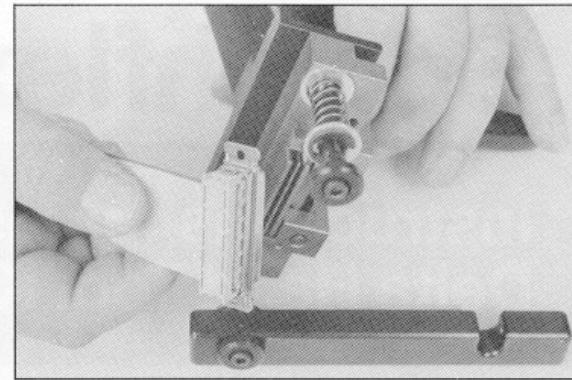

Fig. 5
7. Engage latch guides of the connector body to the cover subassembly. Use finger pressure to latch it in pre-assembly position. Open assembly head bar. Place connector cable assembly in the assembly head engaging the positioning pins. (fig. 5)